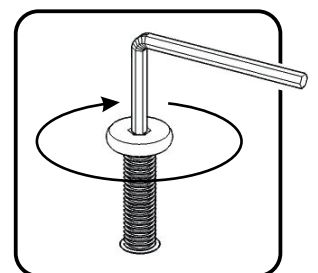

Figure 3
Attach Base (W) to unit with Head Cap Bolts (long), then flip the Locks. (See Figure 3)